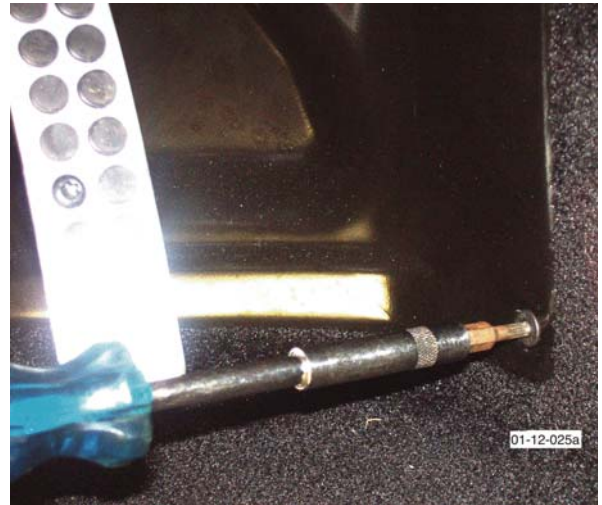

Figure 9
22. Remove Allen bolts (x4) from securing carpet retaining plate to bulkhead drivers side (see Figure 9).